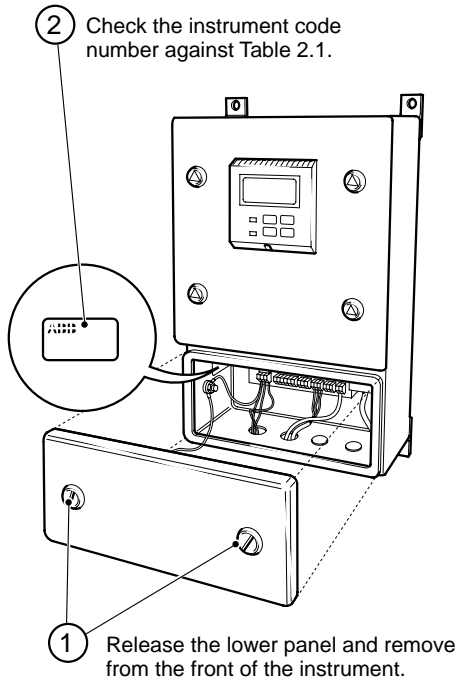

Fig. 2.1 Checking the Code Number
2.1 Checking the Instrument Type – Fig. 2.1